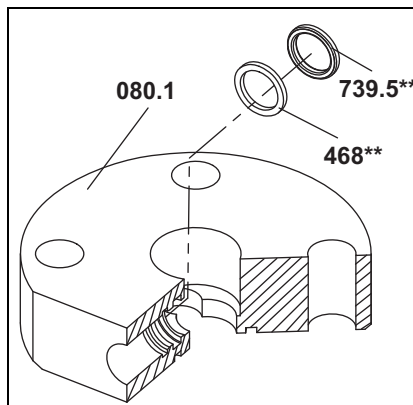

Fig. 12
7. Lay the supporting ring **468**** and o-ring **739.5**** through the hole in the middle of the bearing cover into the pick up hole, see Fig. 12, page 32.